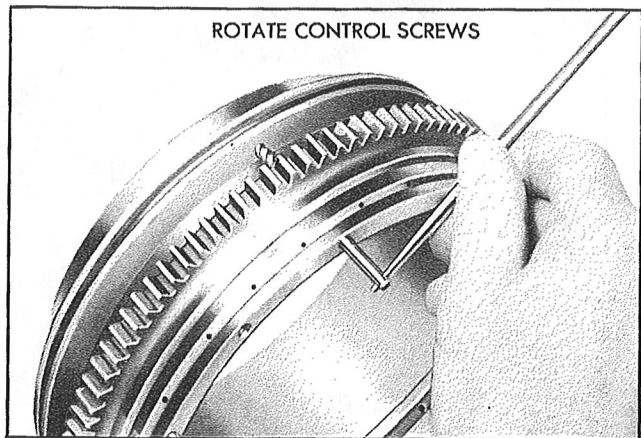

Figure 179—Removal of Control Ring, Model A632S-A1, -A2
b. Remove the control ring from the regulator gear by alternately rotating the three control screws counterclockwise, as shown in Figure 179.